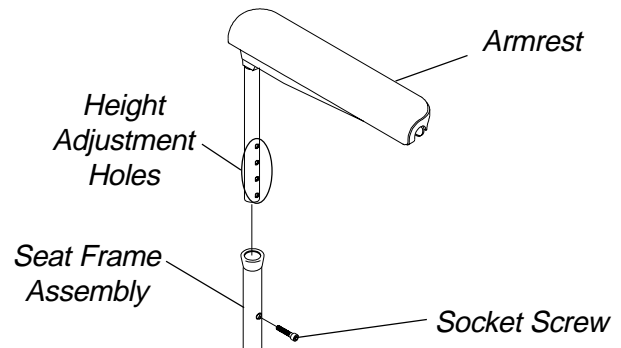

FIGURE 4 - ADJUSTING CAPTAIN'S SEAT ARMRESTS - HEIGHT
**Height (FIGURE 4)**
2. Adjust the armrest to one (1) of four (4) positions.